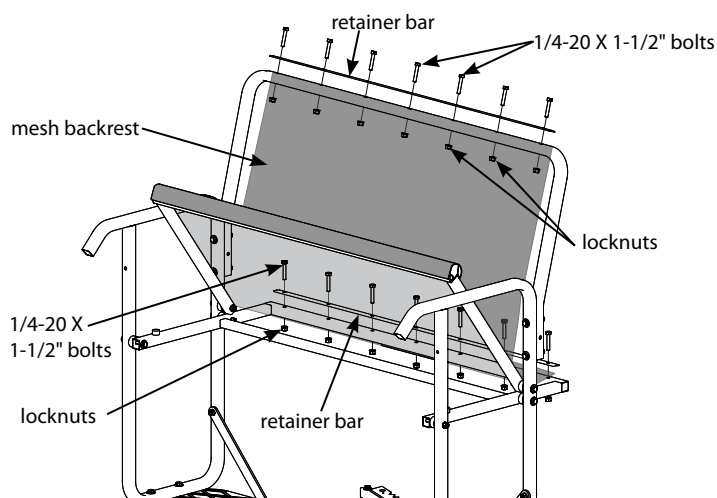

Figure 6A
9. With all nut/bolt assemblies tightened, flip the seat assembly to the upright position. This must be done in order to allow slack in the mesh material to complete seat attachment. Attach the mesh backrest and (1) retainer bar (10239) to the top side of backrest rim using (7) provided 1/4-20 x 1-1/2" bolts and locknuts. **SEE FIGURES 6A/6B.** The mesh backrest must wrap around top side of backrest tube and the plastic stiffening rod located in the sewn sleeve of mesh backrest **MUST** be positioned behind the retainer bar to act as a stop and prevent the backrest from pulling out during use. All bolts **MUST** go through the retainer bar, holes provided in mesh backrest and the backrest rim. **Tighten these bolts securely at this time. Do not crush tubing when tightening.**
10. With the seat still flipped up into the upright position (to allow for slack in mesh material), attach the mesh "tail" section of the seat/backrest and (1) retainer bar (10239) to the top side of tree blade frame using (7) provided 1/4-20 x 1-1/2" bolts and locknuts. **SEE FIGURES 6A/6B.** The mesh "tail" section must be positioned on top side of tree blade tube and the plastic stiffening rod located in the sewn sleeve of mesh "tail" section **MUST** be positioned behind the retainer bar to act as a stop and prevent the "tail" section from pulling out during use. All bolts **MUST** go through the retainer bar, holes provided in mesh "tail" section and the tree blade. **Tighten these bolts securely at this time. Do not crush tubing when tightening.**